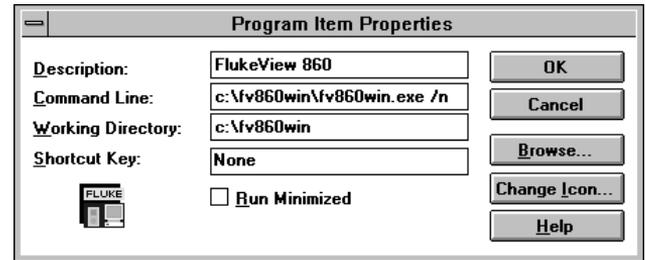

Figure 4. Using the /n Command Line Switch
2. Add the /n switch as shown in Figure 4 and click OK.